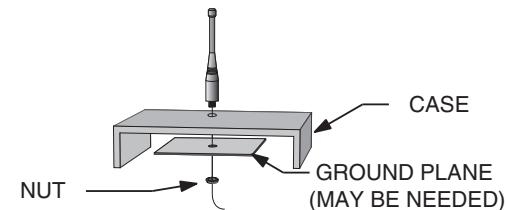

Figure 32: Remote Ground Plane
6. In some applications, it is advantageous to place the module and antenna away from the main equipment (Figure 32). This can avoid interference problems and allows the antenna to be oriented for optimum performance. Always use 50Ω coax, like RG-174, for the remote feed.